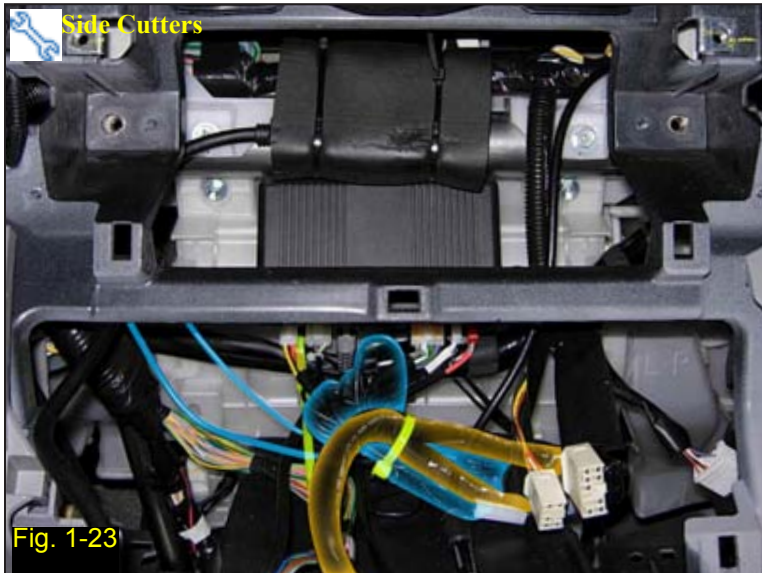

Fig. 1-23
- a. Bundle and secure the excess microphone and switch cable (highlighted in blue) to the main power harness (highlighted in orange) (Fig. 1-23).